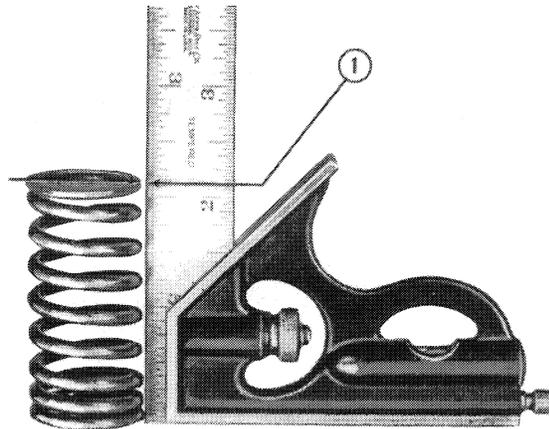

Figure 17
1. Replace worn or damaged valve springs. Check for squareness and reject if out-of-square exceeds 0.06 in. (1.5 mm), Figure 17. Check the free length and loaded length of each valve spring, see "Specifications" — Chapter 3. Be sure the valve spring retainer locks are in good condition and the exhaust valve rotators are not binding or worn.